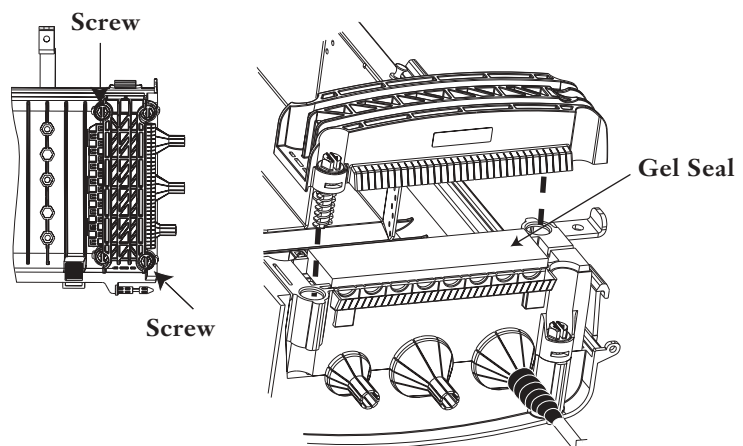

Figure 15 — Open Drop Port
Step 2 Loosen the two screws on the end cap shown in Figure 15 and remove end cap cover.